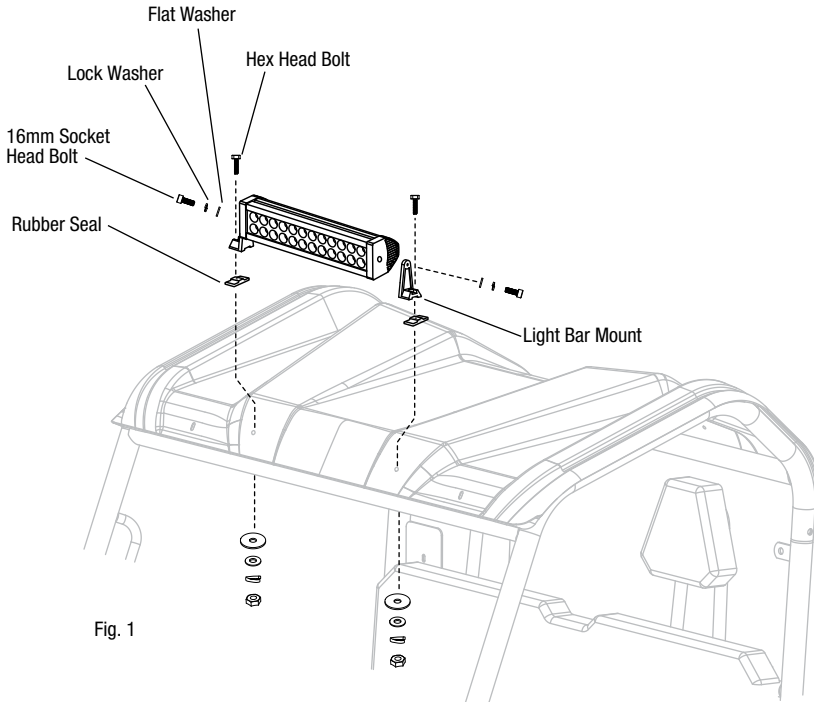

Fig. 1
- 1** Assemble mounting hardware to LED light bar with 5mm hex key as shown in figure 1.
- 4** Attach LED light bar assembly to top of overhead bar as shown in figure 1 (assembly is the same with roof enclosures).
- 1 Assemble mounting hardware to LED light bar with 5mm hex key as shown in figure 1.
- 4 Attach LED light bar assembly to top as shown in figure 1.